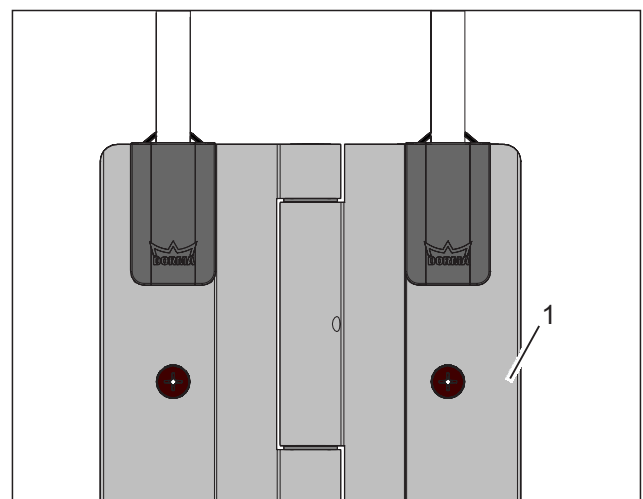

Fig. 43 Loosen the hinge
3. Loosen the hinges (Fig. 43/1) on the front and rear side of the panel.